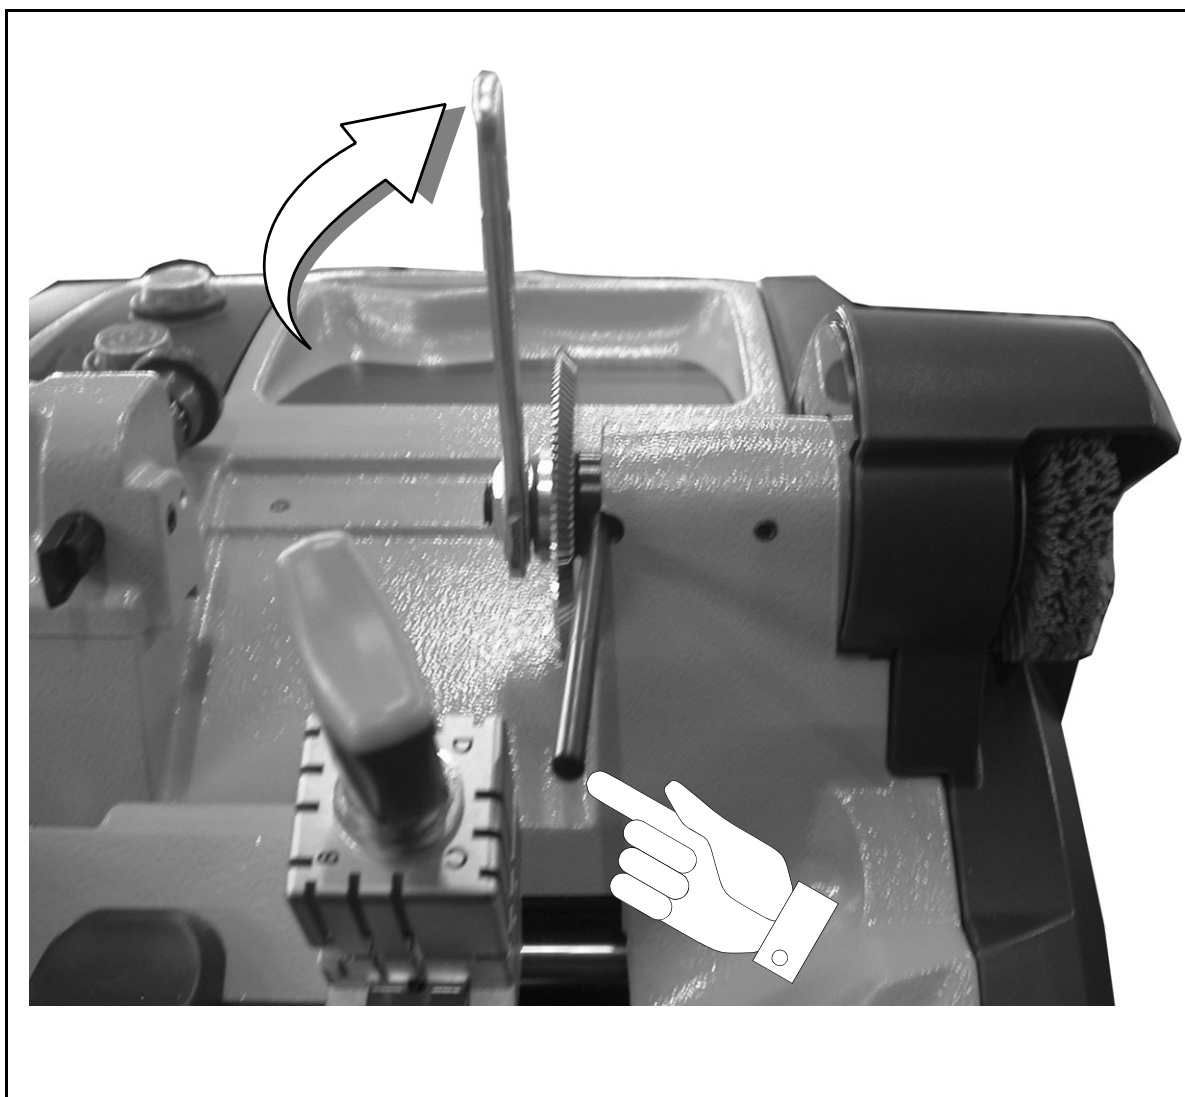

Figure 14: How to replace the cutter
2. Introduce the locking rod into the cutter shaft hole to lock it; at the same time loosen the cutter shaft check nut with the fork spanner from the left side of the milling cutter (see figure 14);